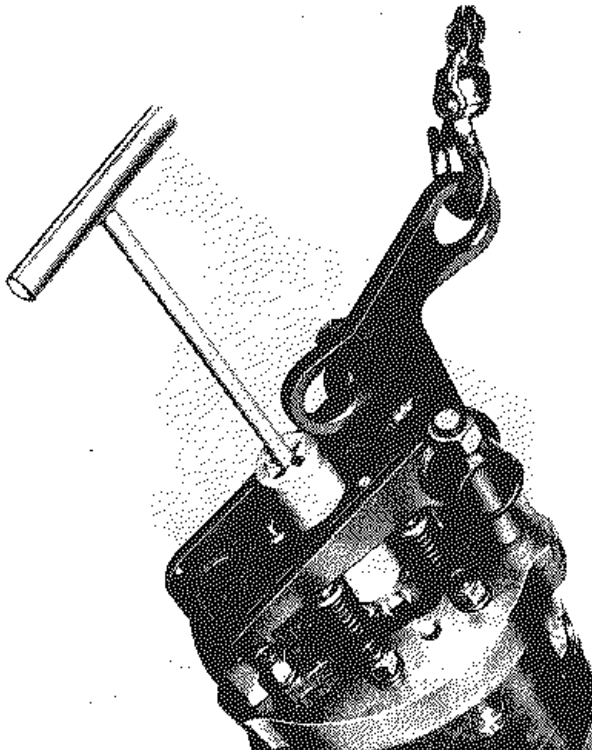

Fig. 5-31 - Power Assembly Installation
15. Change the hoist to the end hole of the lifting clamp, Fig. 5-31, to position it at the proper angle for installation in the engine.